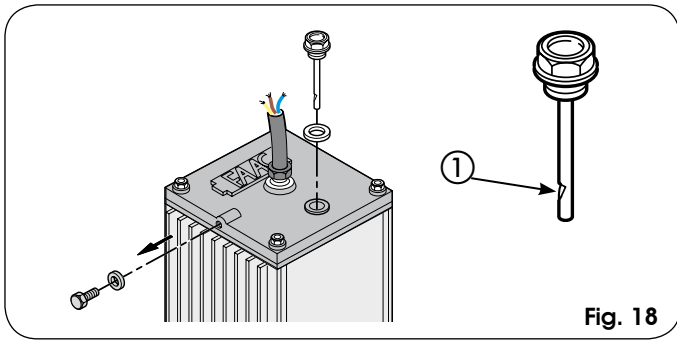
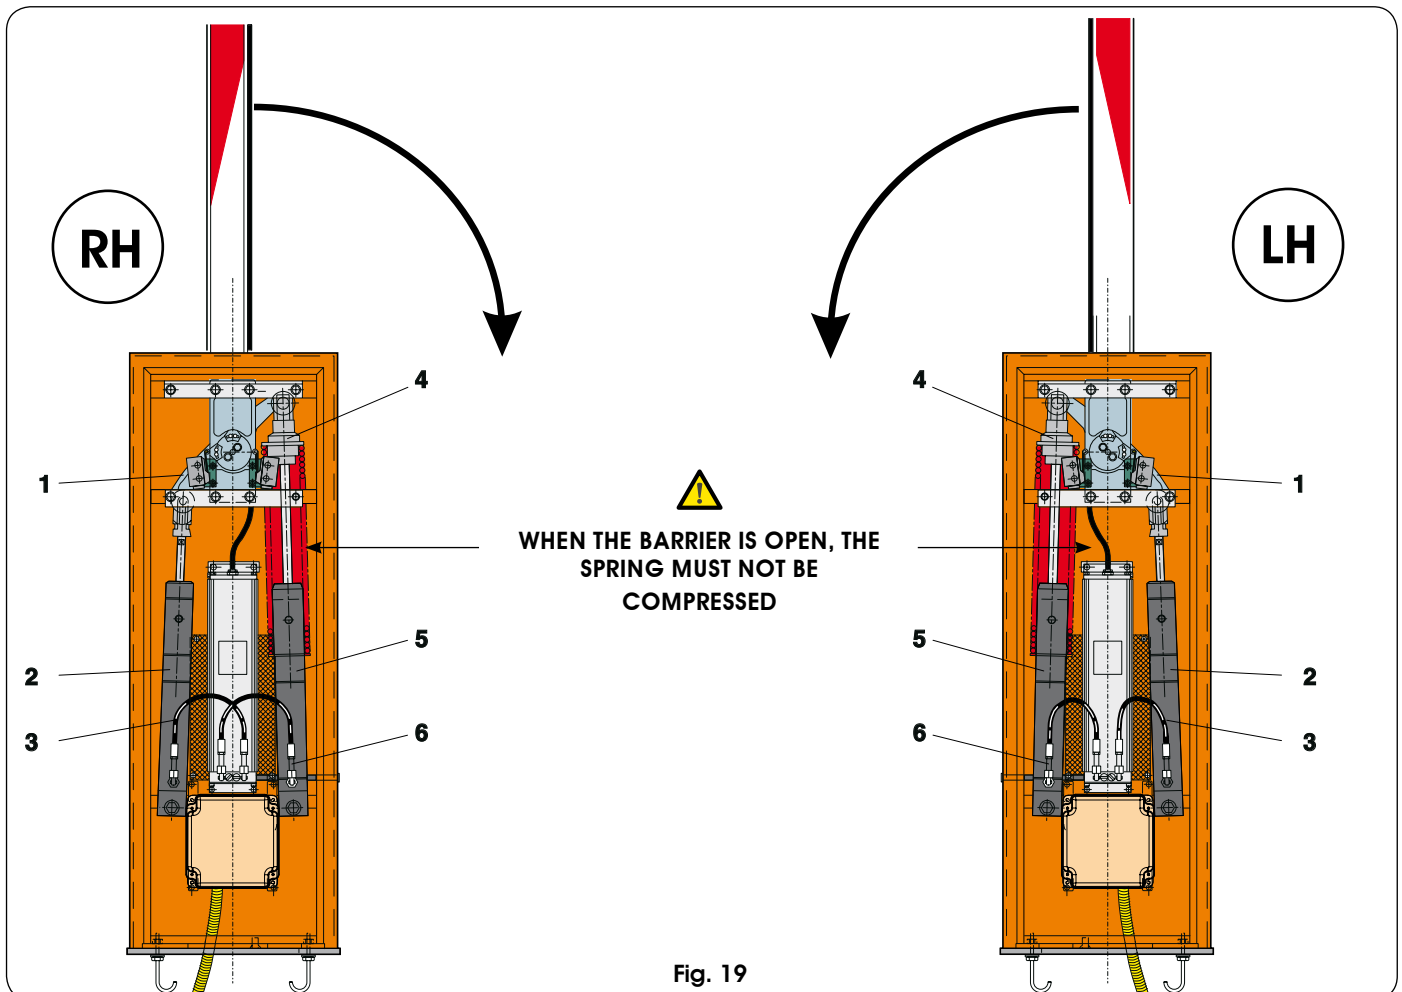

Fig. 18
Fig. 19
The level must not drop below the notch of the control stick (Fig.18 ref. ①) .
To top-up, unscrew the filling plug (fig.18) and pour in oil up to correct level.
5. Fully loosen the spring adjustment ring-nut (Fig.19 ref.④).
6. Detach the feed pipes (Fig.19 ref.③ and ⑥) from the two pistons and plug the unions.
7. Remove the two pistons (Fig. 19 ref. ② and ⑤) from the upper and lower fittings and reverse their position, taking the rocker (Fig.18 ref. ①). against the opening travel limit mechanical stop.
8. Remove the pinion pocket and re-install it to set the barrier at opening as in figure 19.
9. Fit the feed pipes as shown in Fig. 19, according to the configuration of the barrier (RH or LH).